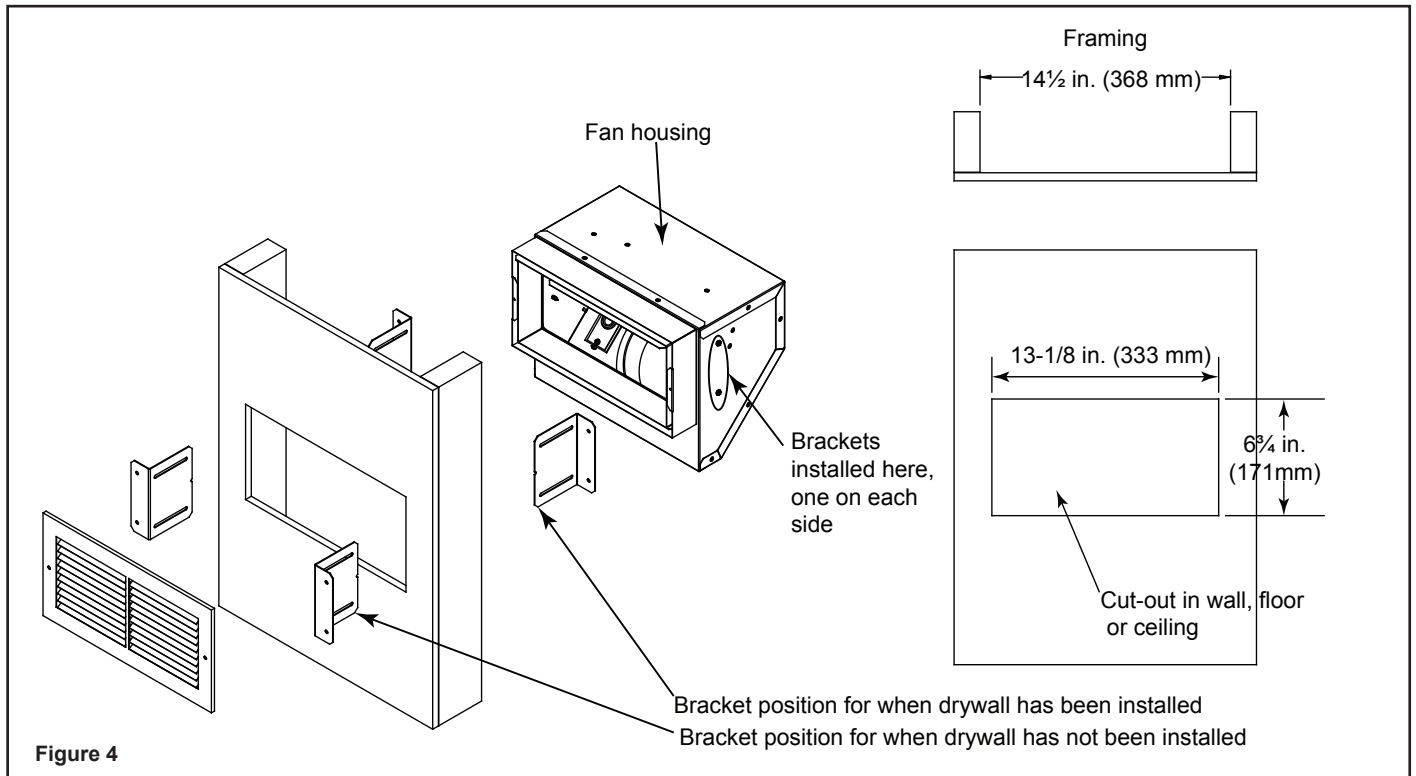

Figure 4
- Determine the location for the air register and fan housing assembly. Cut a 6-3/4 in. x 13-1/8 in. (213 mm x 333 mm) hole between framing members (wall studs or floor joists). Attach the brackets to the fan housing with the screws provided. The brackets can be rotated 180° and mounted to the back side of the 2 x 4 if necessary. See Figure 4.